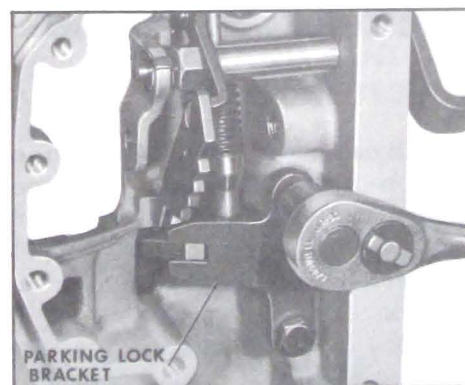

Figure 5-284
10. Install parking bracket to transmission case. Torque bolts to 8-12 ft. lbs. torque. See Figure 5-284.